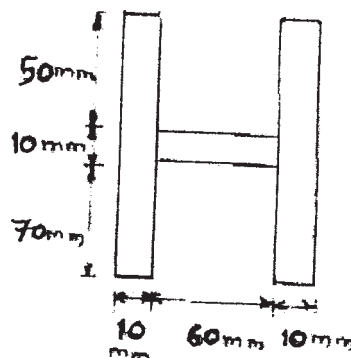

Fig.4.
- Q5) Find centroide. And Calculate moment of inertia for a given section Fig.4 about its cenetroidal X-X & Y-Y axis. [15]